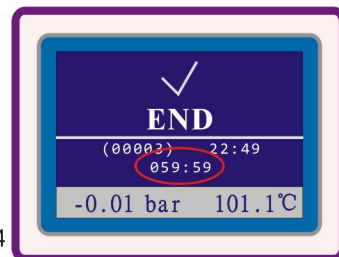

Fig.6.4-24
Until LCD appear Fig.6.4-24 interface,at this time you hear “Ka” ,it means electromagnetic lock has been release. You can open the door and take out the instruments. “END” is means the sterilization cycle is over.
(10) **Sterilization Evaluation:** the sterilization cycles is over,the control system will do Sterilization evaluation. Evaluation concluded that two kinds:1、 “✓” is qualification;2、 “X ” is failure.(Fig.6.4-24)
(11) **Save Electricity Function:**when this interface(Fig.6.4-24) stationary on the LCD,it appear 59:59 countdown,after one hour, if no one to open the door and remove this interface.the control system judged as operator have left. To reduce the risk and save electricity, it will stop to the heating coil and the steam generator power. Until you get back to open the sterilizer door can only be to the heating coil and the steam generator to restore power.